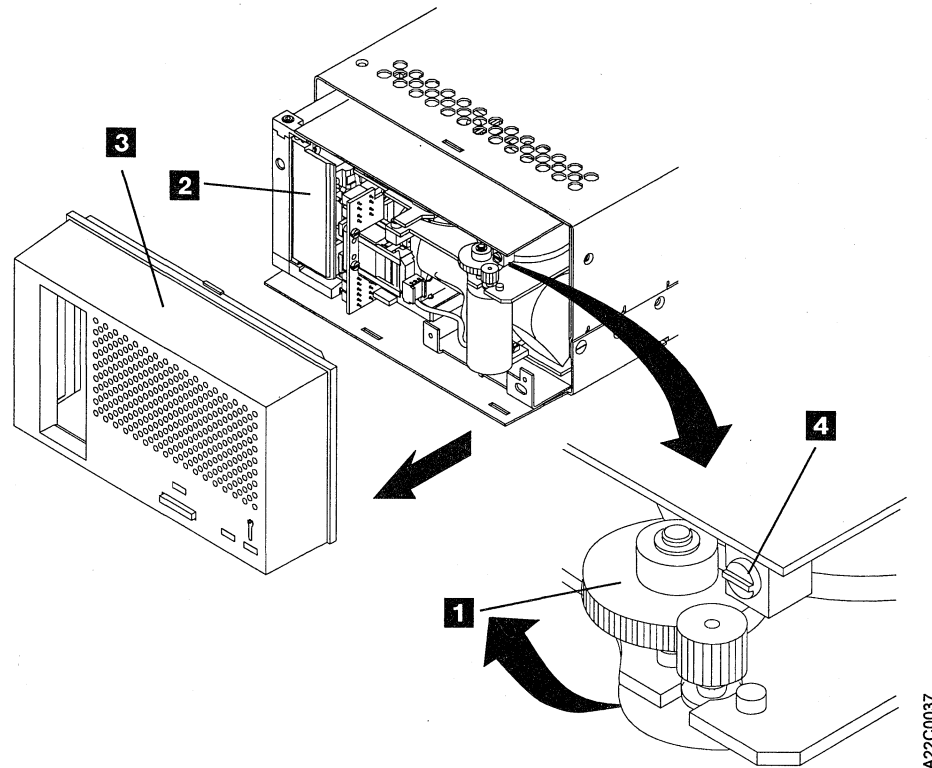

Figure 26. Removing a Stuck Cartridge from Model C00
- 4. See Figure 26. Remove the drive cover **3** from the drive by pressing the top center of the drive cover and pulling it free.